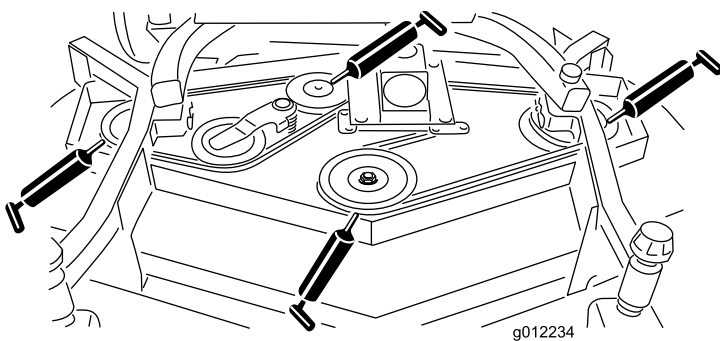

Figure 19
- Spindle shaft bearings (3) (located under the pulley) (Figure 19)
- Idler arm shaft bearings (Figure 19)